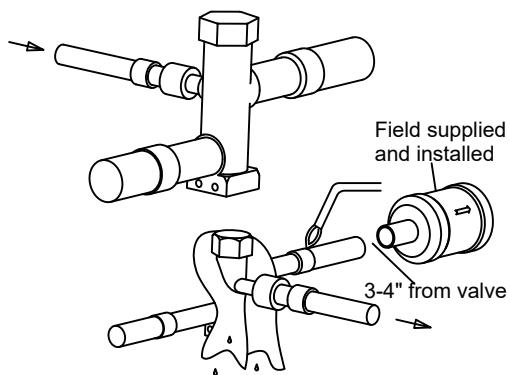

Figure 8-4
- Wrap a wet rag around the valve body to avoid heat damage and continue the dry nitrogen purge (Fig. 8-4).